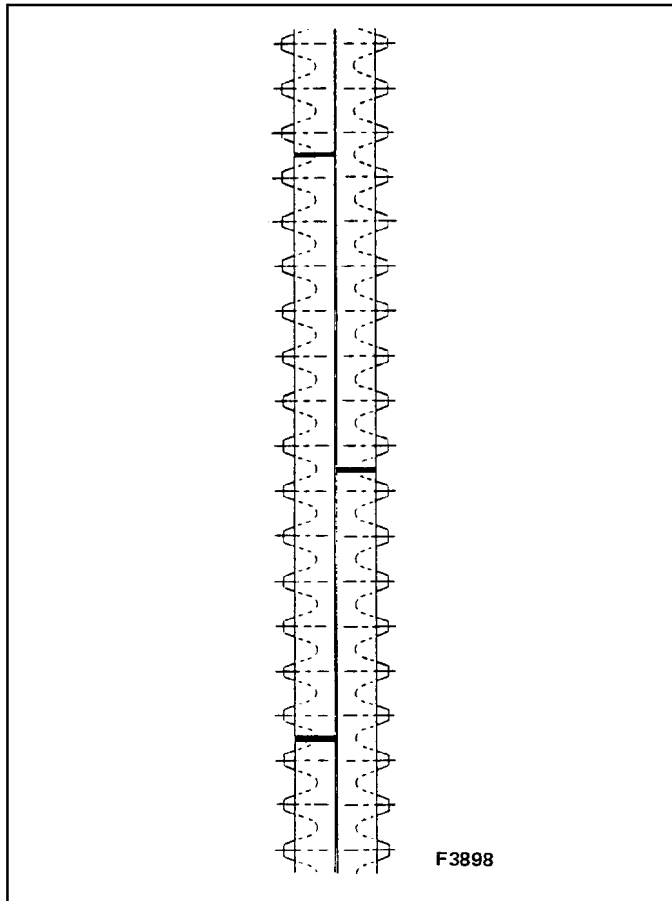

Figure 6-32. Rack Weld Positioning
4. To begin welding, place the rack sections back-to-back with the joints staggered as shown in Figure 6-32. This allows a rack section to be a straight-edge and a strong-back for each rack joint.